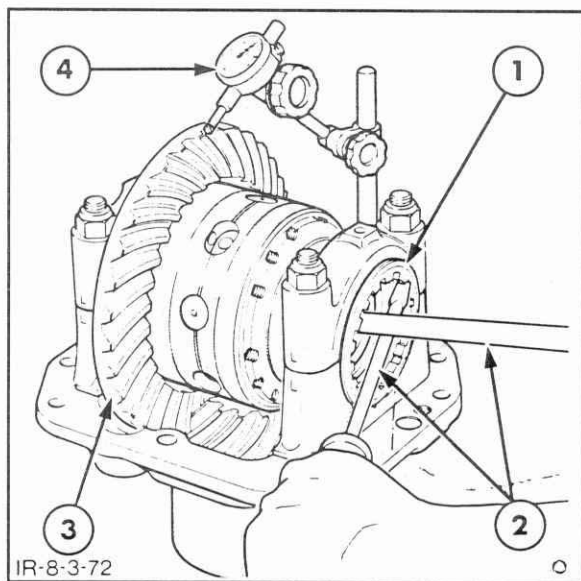

Figure 7-135
15. Measure the backlash between the crown and pinion by placing a dial indicator with its stylus placed at 90 degrees to the crown wheel teeth, Figure 7-135.